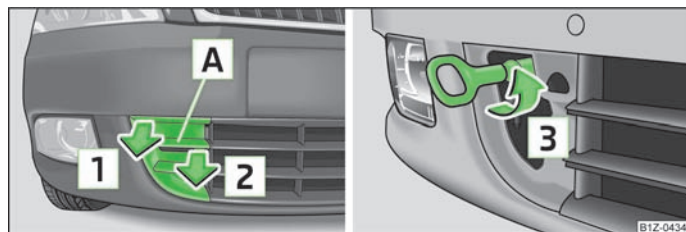

Fig. 158 Front bumper: protective grille/installing the towing eye
- Insert your fingers into opening **A** » Fig. 158.
- Manually insert the towing eye in the direction of arrow **3** » Fig. 158 until the stop, tighten. For tightening purposes, we recommend, for example, using the wheel wrench, towing eye from another vehicle or a similar object that can be pushed through the eye.